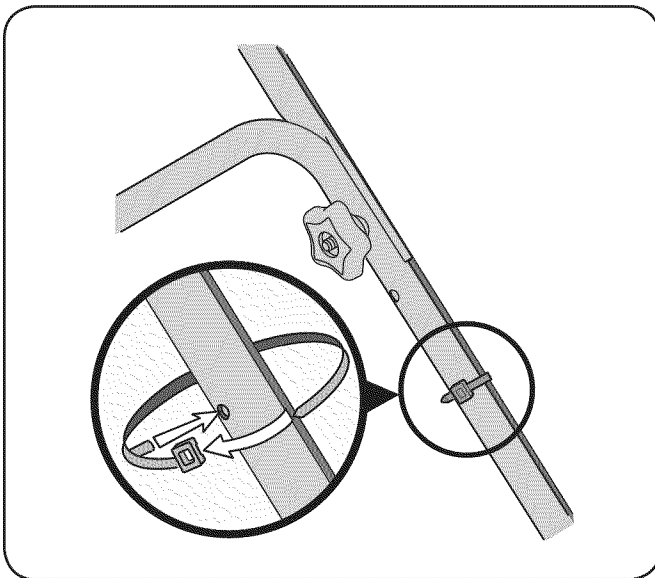

**Figure 3-3**
- If satisfied with height of handle, tighten wing nuts at the ends of the lower handle shown in Fig. 3-3. For convenience of operating, you may adjust the handle height by removing the wing nuts and removing the lower handle.
- Position each handle bracket stud into the top hole in the lower handle. See Fig. 3-3 inset.